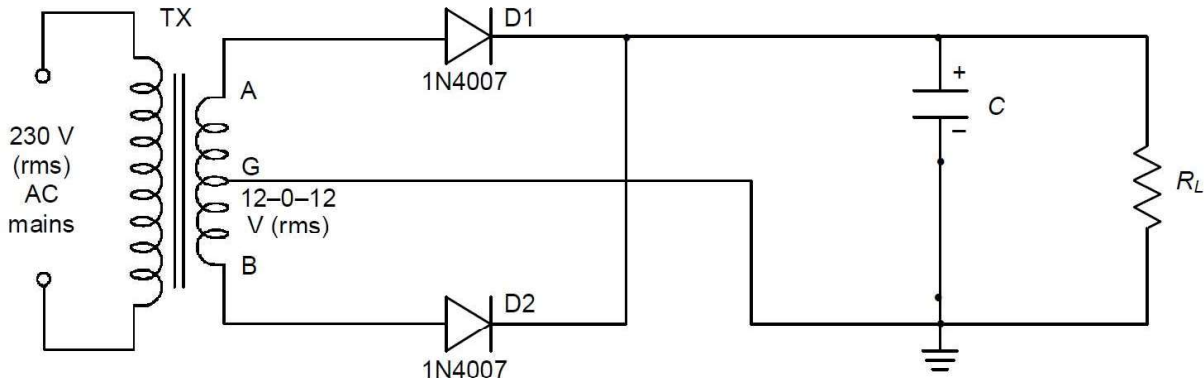

Fig.1
1. Set up the circuit as shown in Fig.1 without the capacitor C. The transformer TX has rating of 230V to 12-0-12V, 1A and $R_L = 1k\Omega$. Connect the transformer primary to the mains and switch on the mains.
5. Now connect $C = 100\mu F$ as shown in Fig.1. Sketch V_0 and measure V_r (peak-to-peak ripple voltage). Set the oscilloscope channel to AC coupling and increase vertical sensitivity (decrease V/div) while measuring V_r .